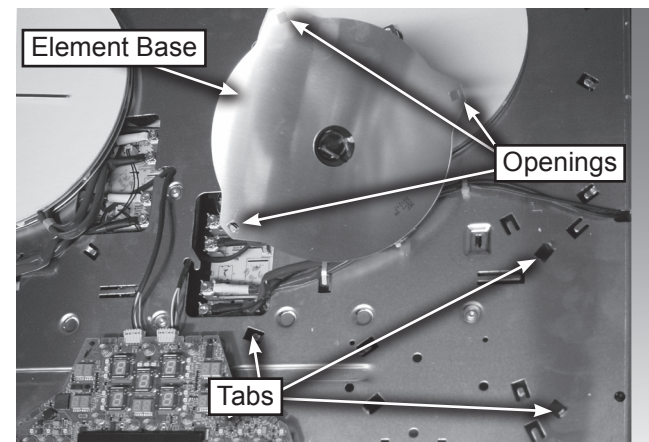

Figure 4
5. The elements are located on the cooktop by a series of tabs that engage corresponding openings in the element base. Remove the element by lifting the element up off of the tabs, see figure 4.